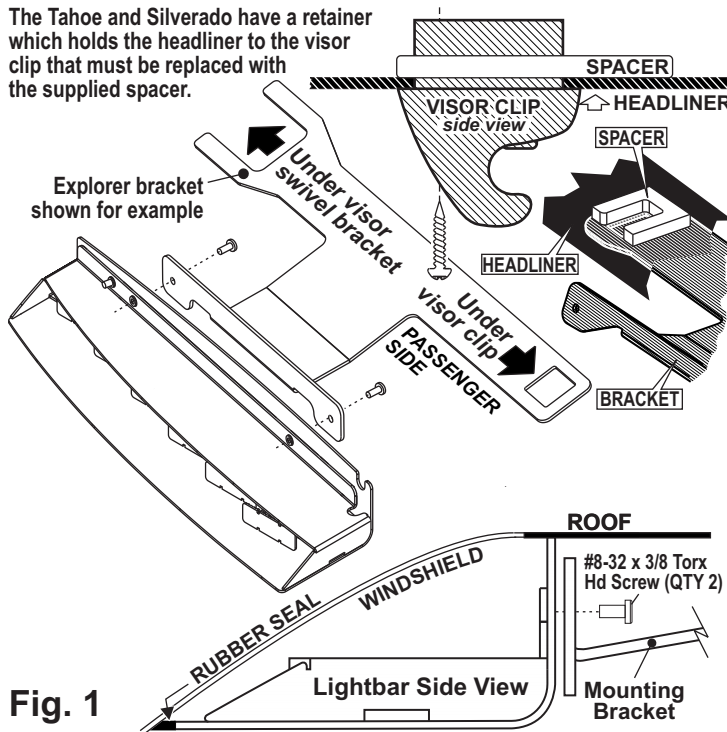

Fig. 1
4. Position the keyed opening of the mounting bracket directly under the mounting location for the **visor clip** and remount the **visor clip** in its original location using the original hardware (Fig. 1).
7. When properly mounted, the rubber seal will be in full contact with the vehicle windshield and roof. This is to prevent light output from entering the passenger compartment. When this has been achieved, tighten mounting hardware firmly to maintain contact (Fig. 1).
Screw (Fig. 1). Loosely mount the bracket to the vehicle then pull the bracket as far back from the windshield as it goes (Fig. 3). With the bracket in place tighten the mounting hardware.
1. Remove the vehicle Visor Clips. The bracket will sit under these clips after mounting (Fig. 1).